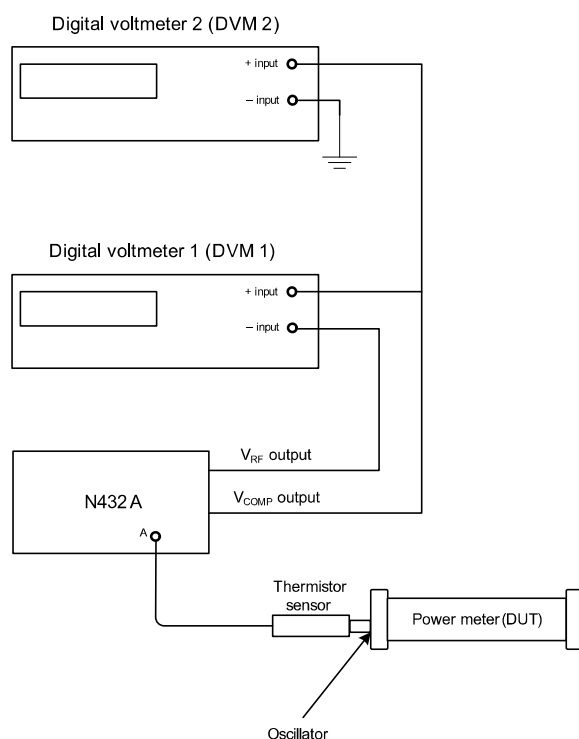

Figure 2-46 Connection diagram for VSWR measurement
- 22 Now, set up the connections shown in Figure 2-46. Connect the N432A rear panel V_{RF} output connector to the negative input lead of DVM 1. Connect the
- 29** Now, set the N432A bridge resistance to 100 Ω . Again, set up the connections shown in Figure 2-46.